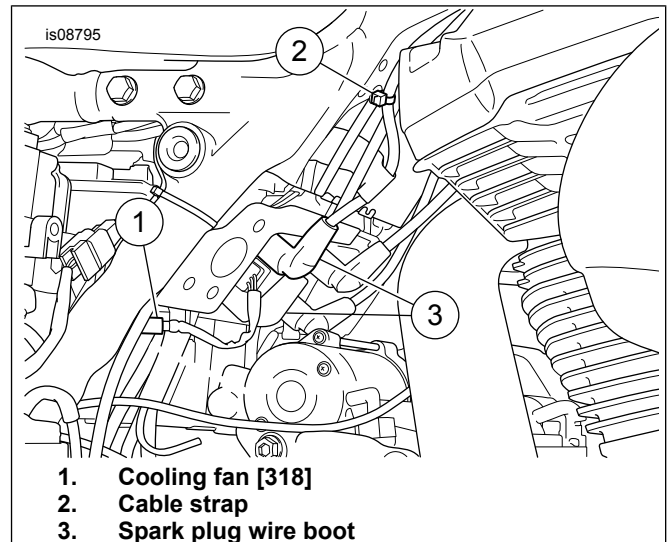

Figure 7. Fan Connector for NON Center-Cooled Vehicles
- When repositioned, right spark plug wire boots (3) on coil pack should be facing toward left side of vehicle.
- See Figure 7. There are holes in frame to support the use of Christmas tree cable straps (12) to help properly route a wire harness or secure spark plug wires.
- When routing spark plug wires (2) make sure there is enough clearance between the frame and engine assembly.
7. **NON Center-Cooled Vehicles:** See Figure 7. Position right side spark plug wire boots.
- b. Rotate top spark plug boot (3) toward left side of vehicle.
- c. Rotate bottom spark plug boot (3) toward left side of vehicle.
- d. Route wires. Install cable straps (2) as needed.